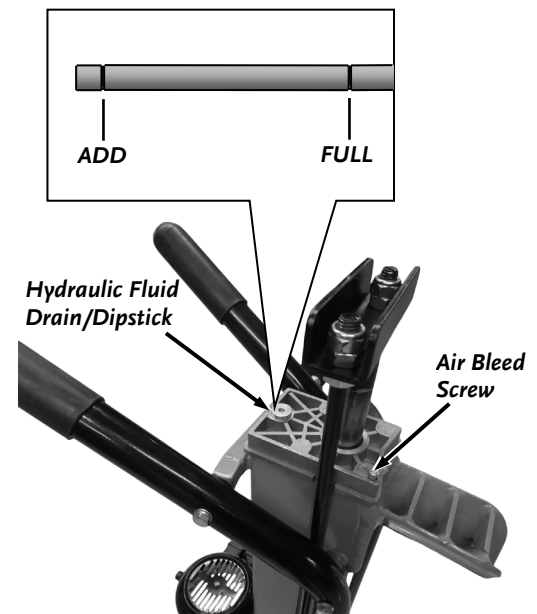

Figure 11
1. Check the hydraulic fluid level by tipping the machine up vertical on the Wheels and Control Lever Guard (place a block under the Control Lever Guard so the weight is not on the Control Lever). You may need to have someone support the Electric Log Splitter to prevent tipping over. Clean the area around the Hydraulic Fluid Fill/Drain Port (**Figure 11**) and then, using a 3/4" Wrench, unscrew and remove the Dipstick located in the Hydraulic Fluid Fill/Drain Port.